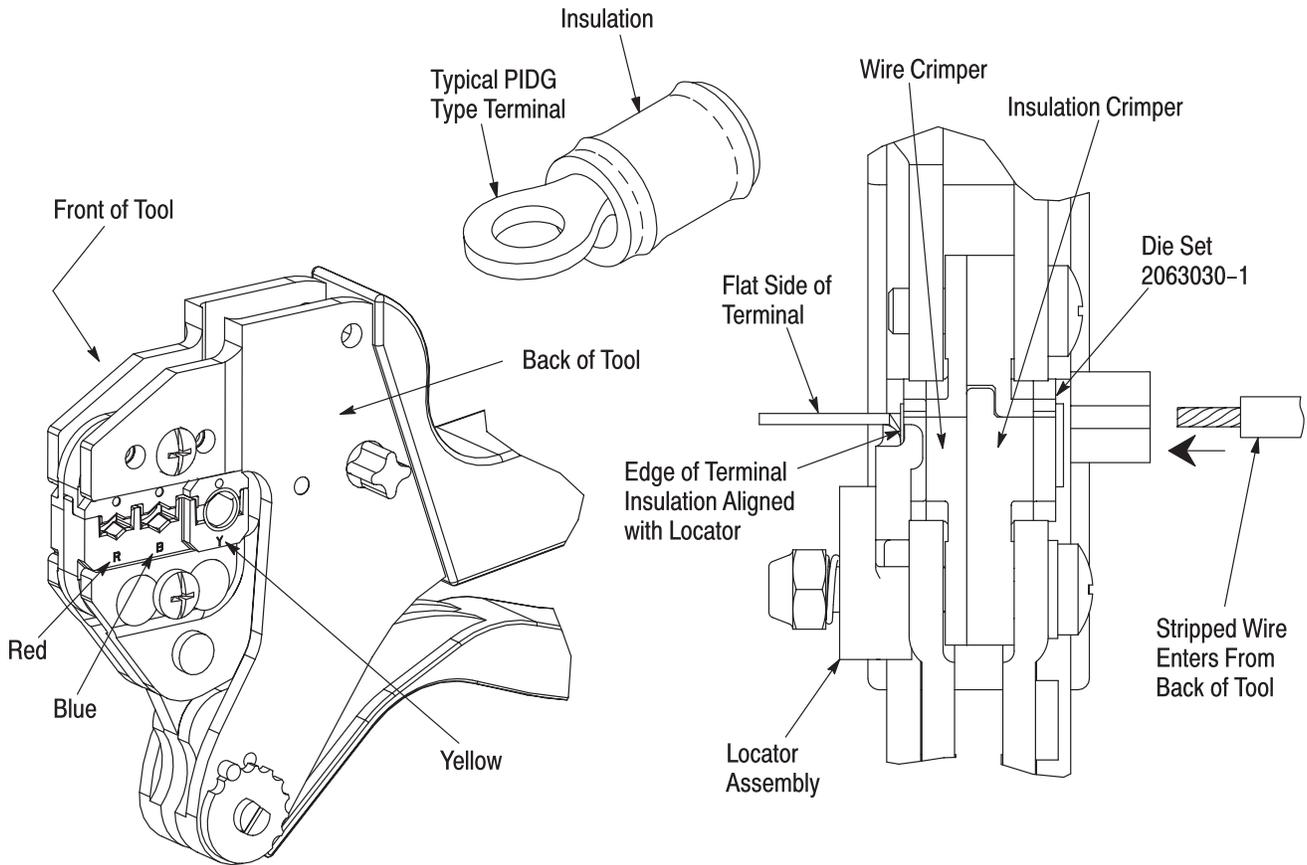

Figure 2
3. CRIMPING PROCEDURE (Figure 2)
3. Place terminal in the appropriate crimping chamber between the locator assembly and the upper die. Make sure that the flat side of the terminal faces up. See Figure 2.